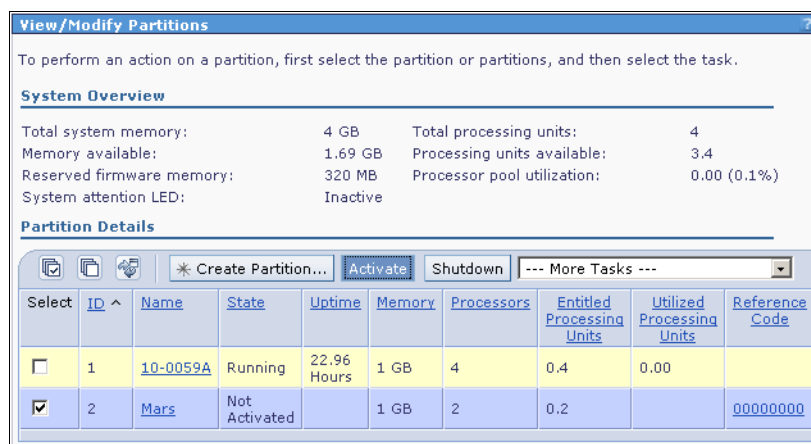

Figure 6-27 Activate a partition
1. To activate the partition, click the check box of the partition and click **Activate**. See Figure 6-27.